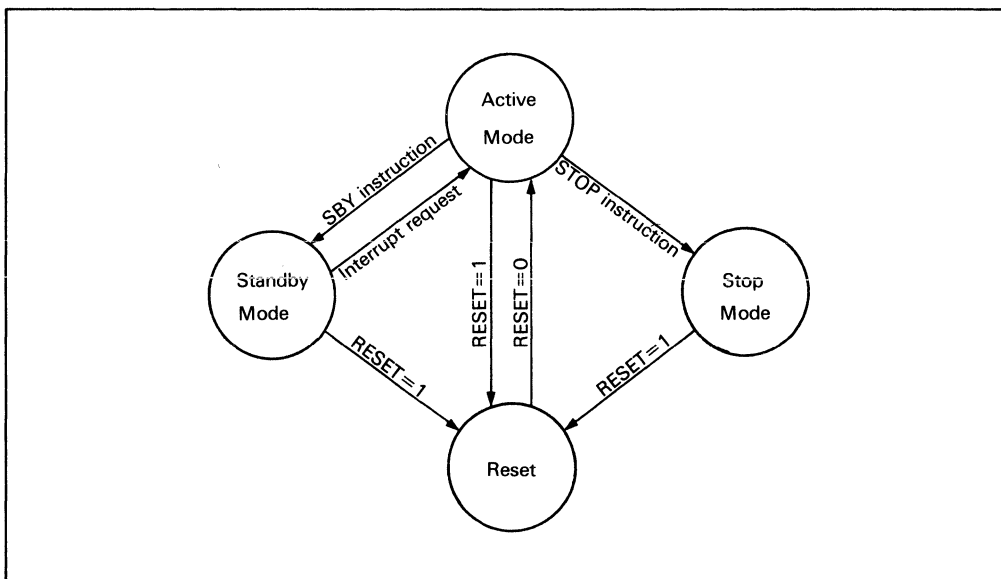

Figure 17. MCU Operation Mode Transition
2. Wiring between OSC₁, OSC₂, and elements should be as short as possible, and never cross the other wires. Refer to the layout of crystal and ceramic filter (figure 17).
The MCU has two low power dissipation modes, standby mode and stop mode (table 21). Figure 17 is a mode transition diagram for these modes.